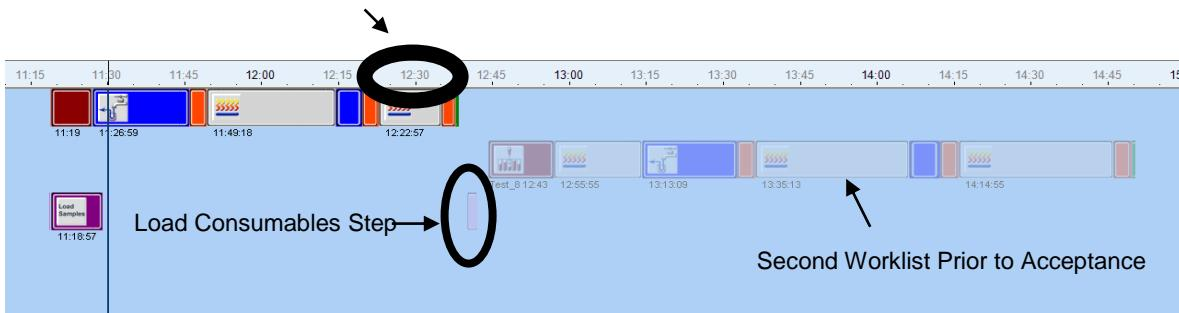

Figure 6-9: Accepting the Second Worklist
- g. The timeline will display with the second assay added to the worklist (see Figure 6-9).
- i. Click **Accept** to accept the worklist or click **Fit Next** (if available) to see other possible timelines. When the desired timeline is displayed for the second assay Click **Accept**. Prior to clicking accept **ensure that someone will be available to load consumables when requested by the DS2** (see Figure 6-9).